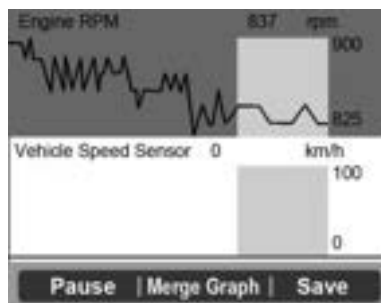

Figure 5.13
- If the “**Merge Graph**” on the bottom appears when a PID is selected to view, merged graph information is available (Figure 5.13).